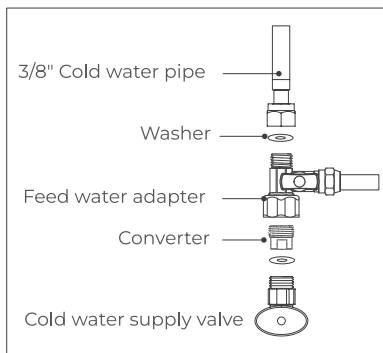

Figure 5
c. If the cold water pipe is 3/8", twist the converter onto the cold water supply valve (with its washer), then twist the feed water adapter onto the converter, and tighten with an adjustable wrench (**Figure 5**).